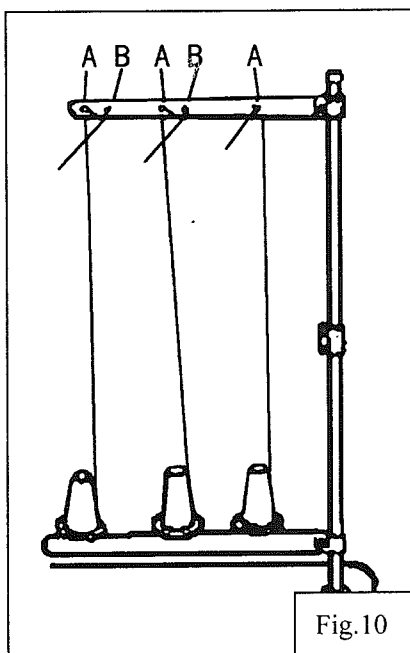
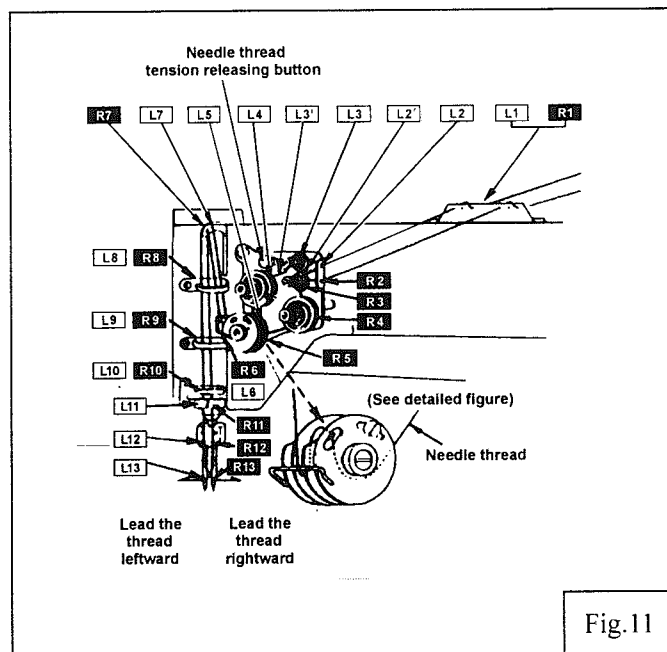

Fig.10
Fig.11
#### 4) How to route the upper thread (Fig.10, Fig.11):
**Note: when thin slippery thread (polyester thread for example) is used pass the thread through thread guide B as show in Fig.10**
B With the take-up lever located at the upper most position, pass each thread in the order in Fig.11.